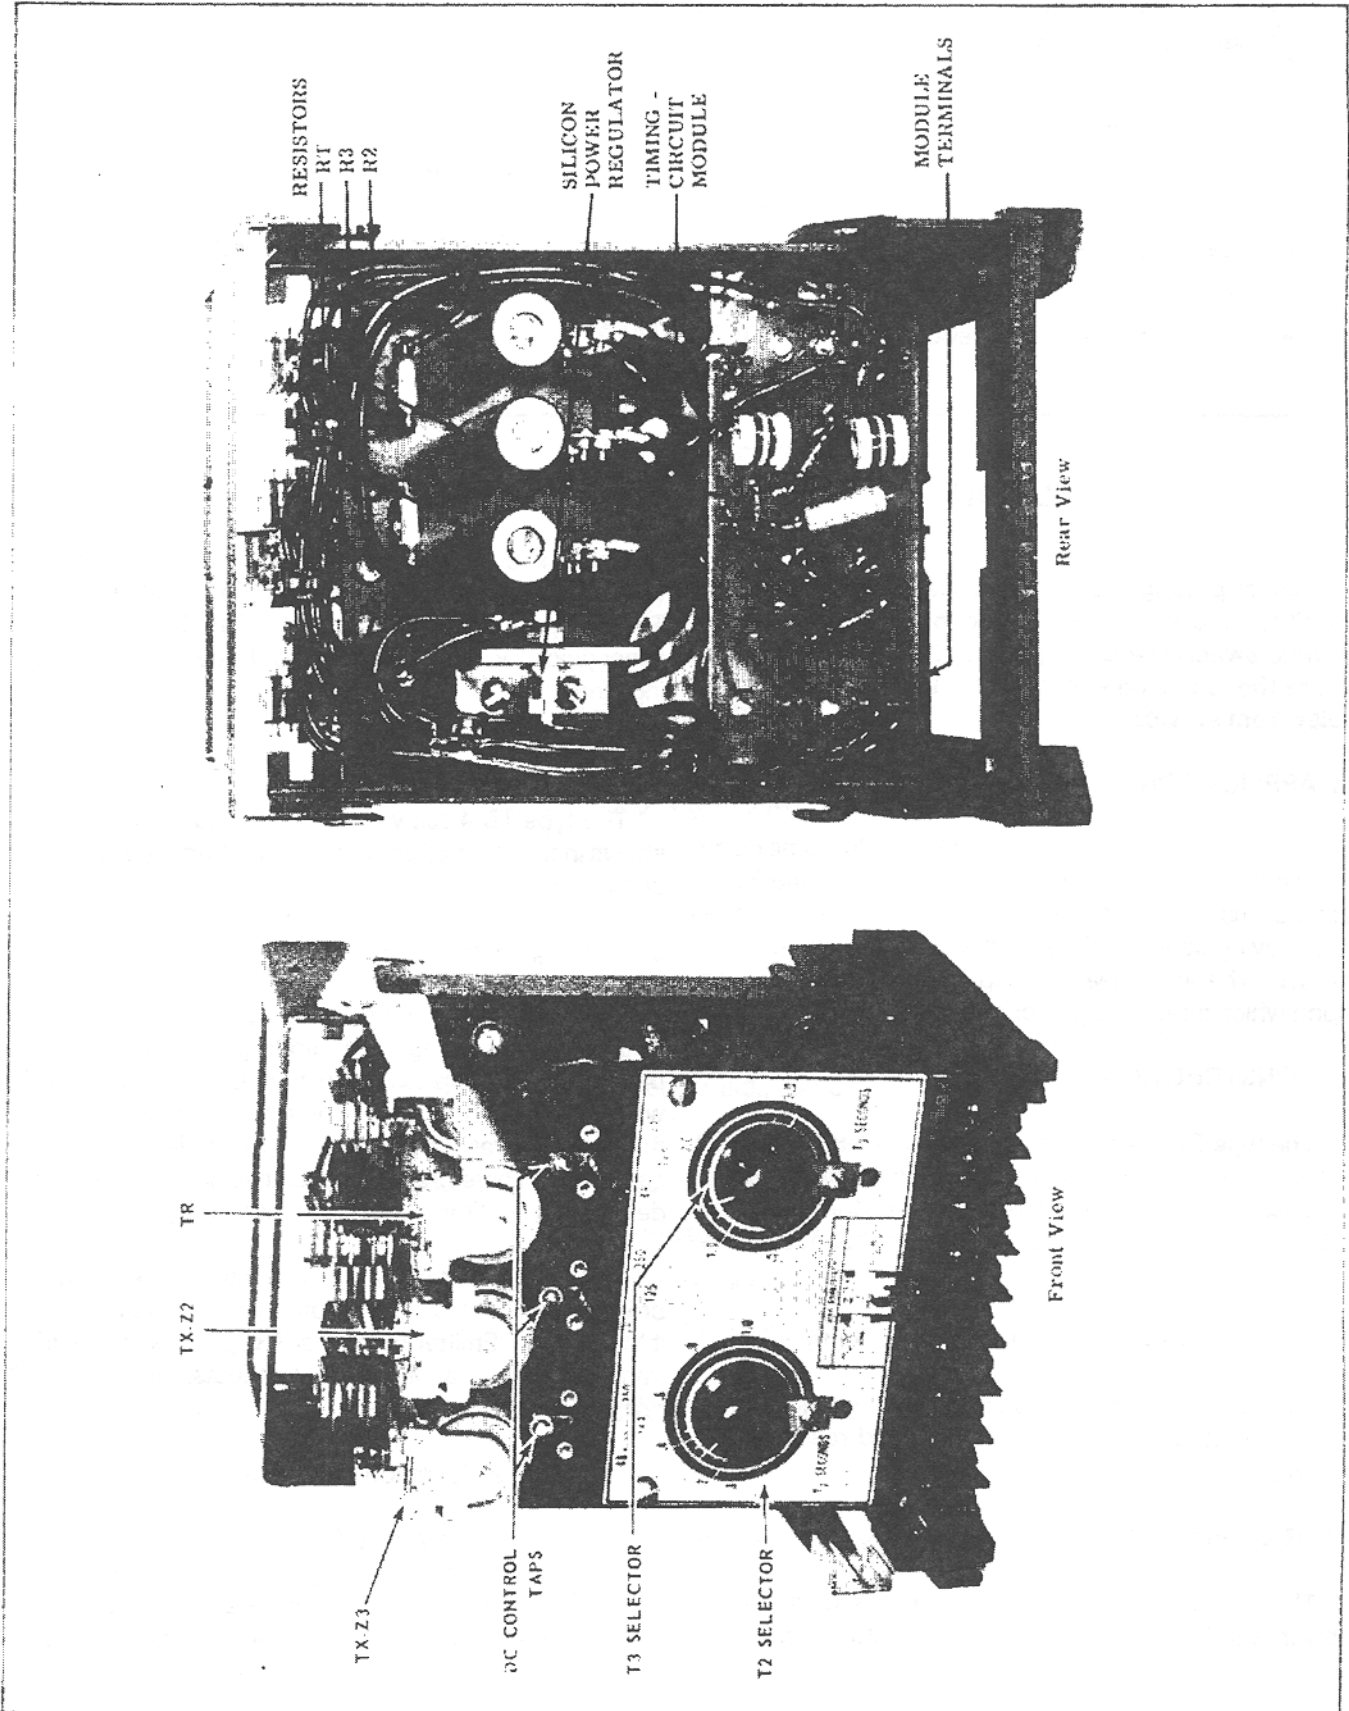

Fig. 1. Type TD-4 Relay Without Case
Time settings are made by adjusting rheostates T₂ and T₃. See figure 1.
2. Check reference voltage circuit. This is done by measuring the voltage between module terminal 2 (positive) and relay terminal 8 (negative) with a dc voltmeter. Module terminal numbers are shown in Fig. 1. This voltage should be zero before TX-Z2 and TX-Z3 operation, and between 27 and 32 volts dc after TX-Z2 or TX-Z3 operation.